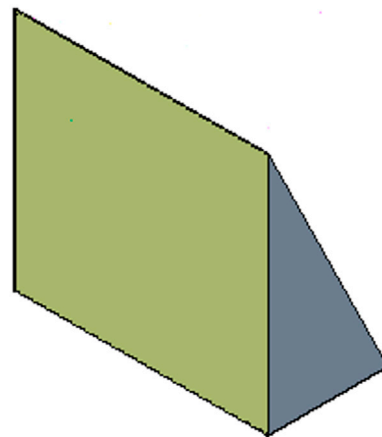

FIGURE 23.19 Wedge primitive.
Step 4. Drag your mouse up (or enter a value) and the wedge shape is automatically extruded, as seen in Fig. 23.19.